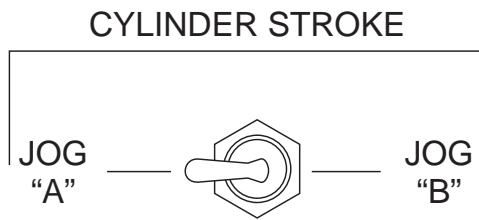

Figure 60. Manual Cylinder Jogging Switch
- Place and hold the **manual cylinder jogging switch** (Figure 60) in either the **JOG "A"** or **JOG "B"** position to test the pressure of that particular cylinder.